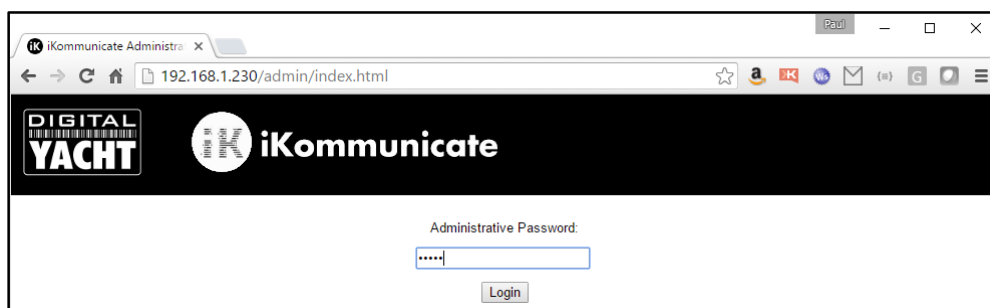

Figure 2
- To configure iKommunicate, click on the “Admin Page” button and you will see the web page shown in Figure 2.